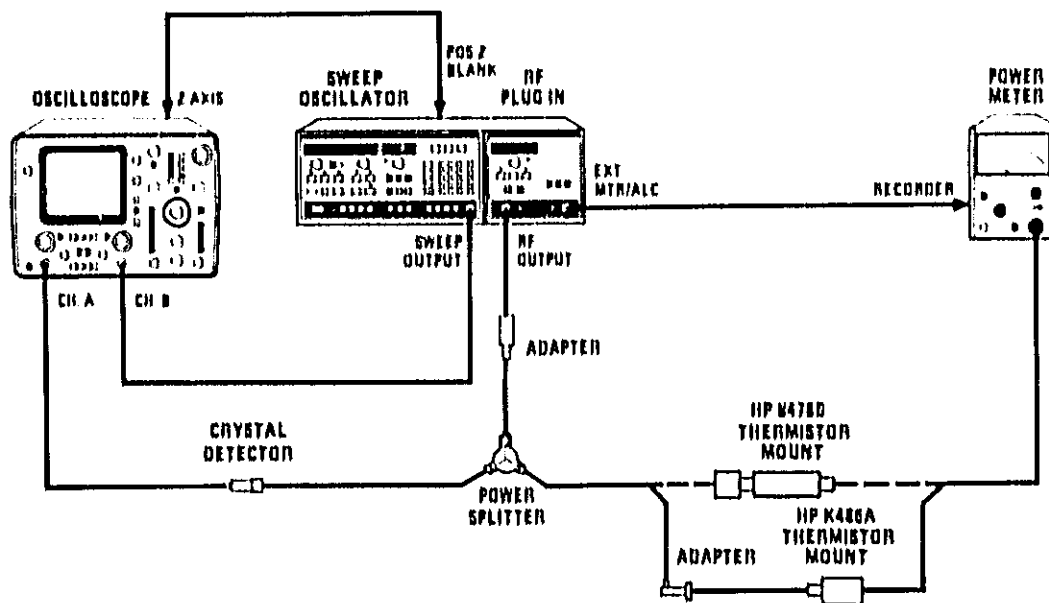
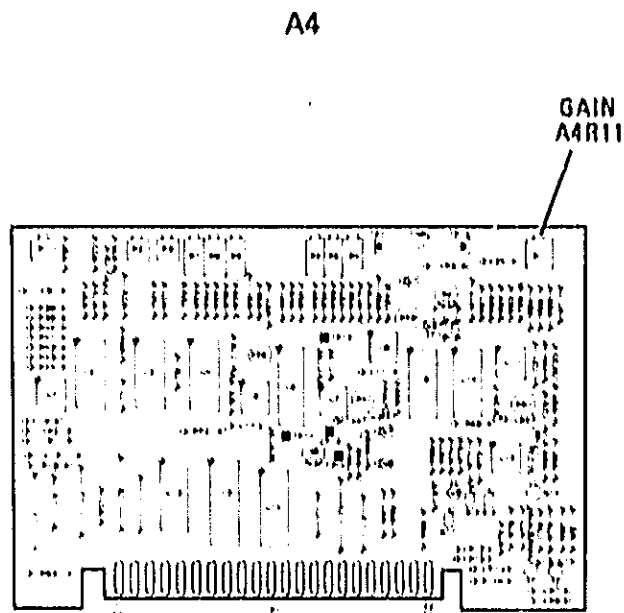

Figure 5-35. ALC Gain Adjustment Test Setup
Figure 5-36. ALC Gain Adjustment Location
1. Connect the equipment as shown in Figure 5-35 with the 8478B Thermistor Mount connected to the Power Splitter. Preset A4R11 (GAIN) fully counterclockwise. Refer to Figure 5-36 for the adjustment location. Allow the equipment to warm up for 1 hour.
14. Reconnect the equipment with the K486A Thermistor Mount and the Adapter connected to the Power Splitter as shown in Figure 5-35.